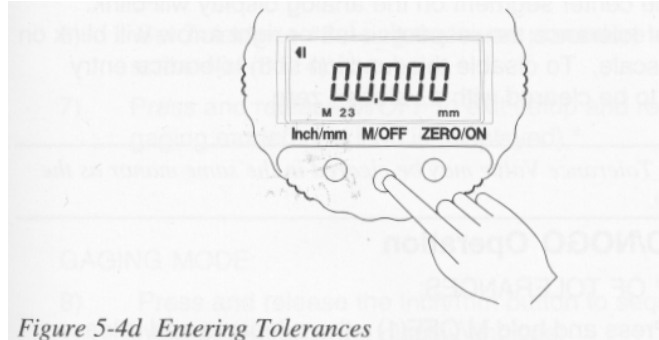

Figure 5-4d Entering Tolerances
- 5) Press and release M/OFF to display the M23 icon signifying the unit is in the limit #2 tolerance entry mode. A cursor will be above the left most digital position. (Fig.5-4d)